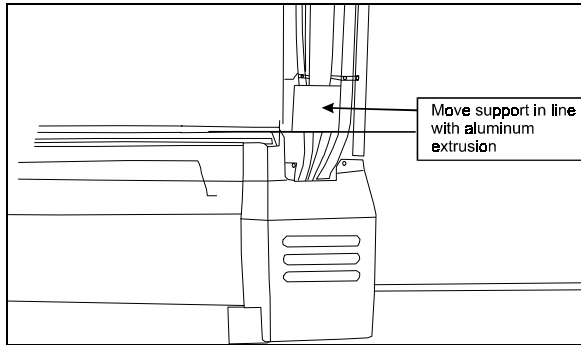

FIGURE 4
2. Remove post, the bottom part will have to be cut to fit the new end cap (refer to figure 4).